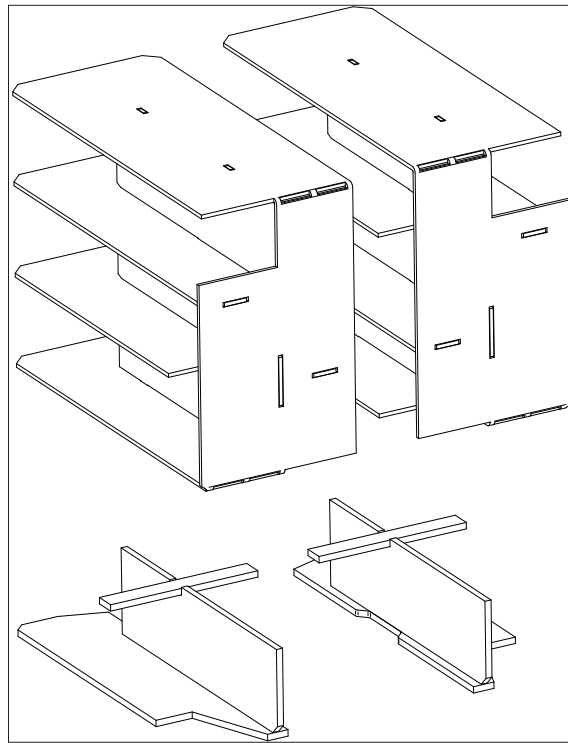
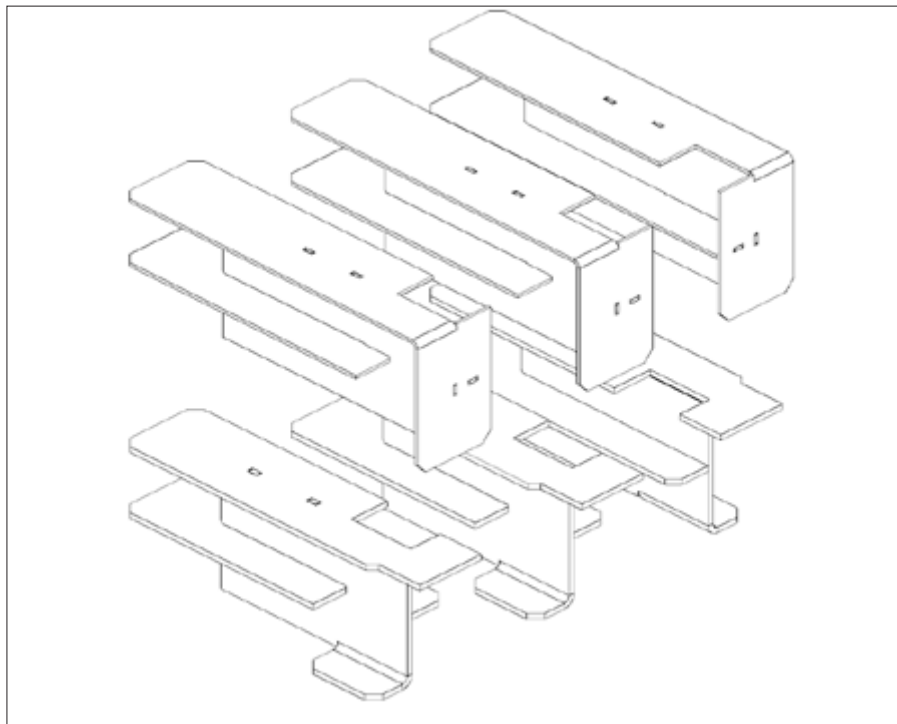

Figure 11-1: Baffles in VortexBlue Combi 21 & 26
Figure 11-2: Baffles in VortexBlue Combi 36
2. Remove the baffles as shown in Figure 11-1 and Figure 11-2.
6. Replace the baffles, ensuring they are correctly fitted. Refer to Figures 11-1 and 11-2, as appropriate.